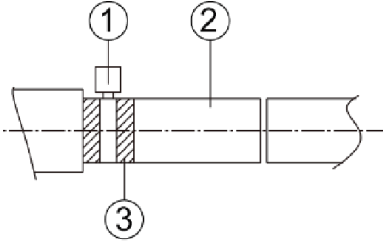

Fig. 10
1. Insert the drain hose into the drain hole and secure with clamp, as shown in (Fig. 10).
- a. a. metal clamp (① accessory)
- b. drain hose (② accessory)